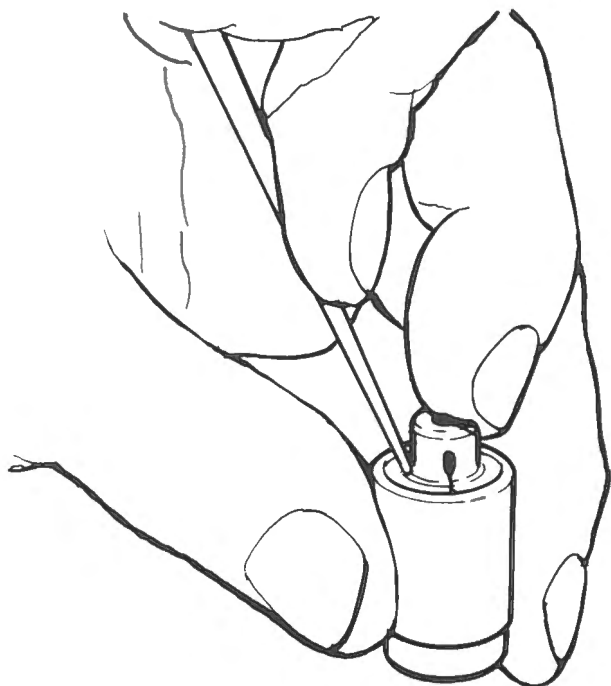

Fig. D-40
- 1 Assemble the check valve assembly to the plunger as shown in Fig. D-40.